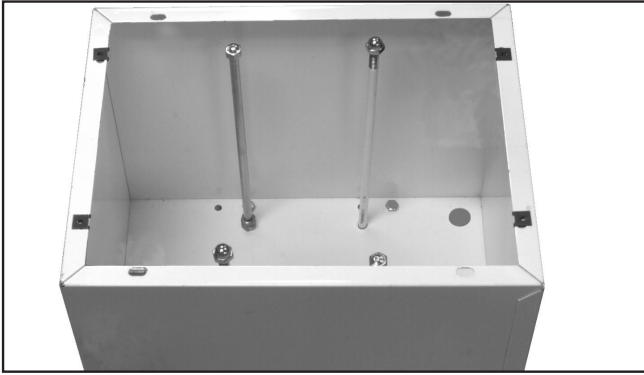

Figure 4
6. Reinstall anchor bolts with washers and acorn nuts on ends of guide rods in mounting box (Figure 4).